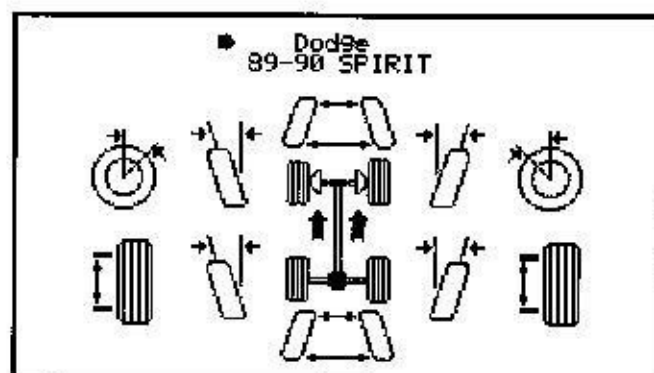

Figure 2-34
1. From the *Select Model* screen, press OPTION. The screen shown in Figure 2-34 will appear in display.